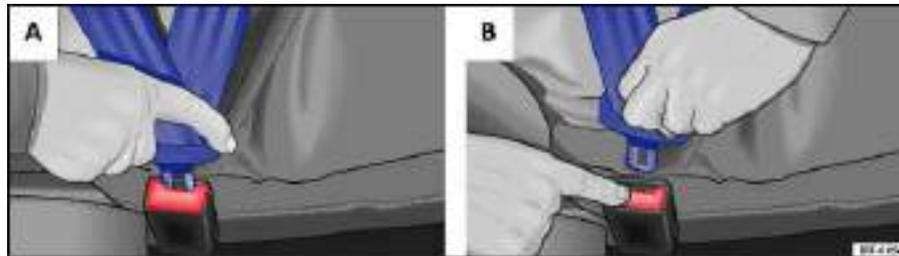
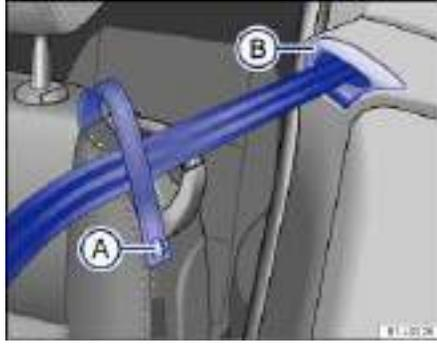

Fig. 59 A: Inserting the safety belt buckle tongue into the belt buckle. B: Releasing the buckle tongue from the belt buckle.
Fig. 60 Safety belt webbing running through the front safety belt loop.
- Grasp the safety belt by the buckle tongue and pull it out of the belt guide ⇒ fig. 60 \(B\).
- Unsnap the safety belt loop on the front seat backrest (A) and guide the belt strap through the loop. Close the snap.
- Insert the tongue into the correct buckle for your seat until you hear it latch securely ⇒ fig. 59 A.